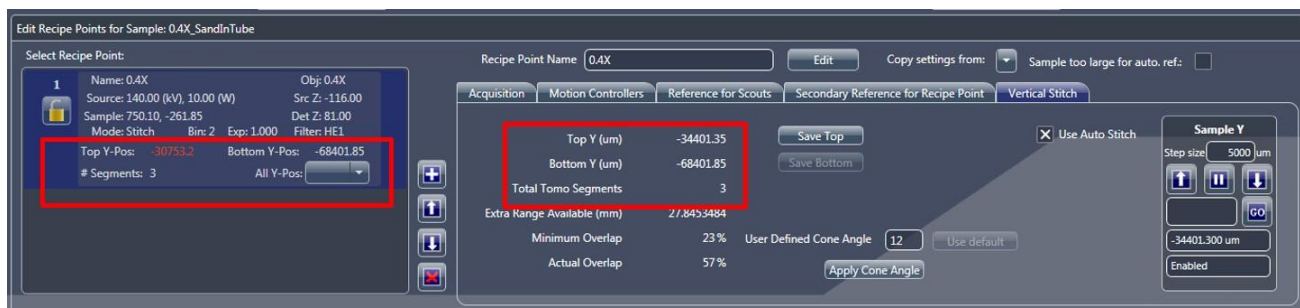

Figure 8: Mis-matched parameters in the VS tab and the saved recipe point.
E.g.: In Figure 8, after saving the Top (-30753.20) and Bottom (-68401.84) Y -positions as seen in the recipe point, the user moved the top sample- Y position and acquired an image at -34401.4, as seen under the VS tab. This changed the rest of the parameters under the VS tab. These new values, under the Vertical Stitch tab, will be used, ONLY if the user SAVES the new Top-Y position by clicking the "Save Top" button.